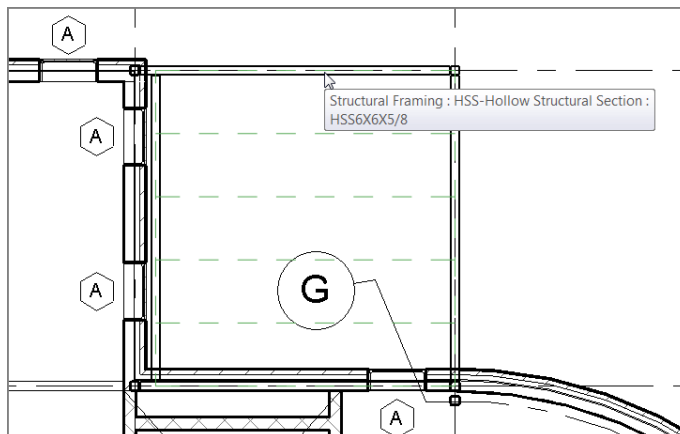

FIGURE 8.42: Getting ready to place the framing system
7. Hover your cursor over the top, horizontal beam, as shown in Figure 8.42. Notice the green dashed lines: this is where your beams will be placed.